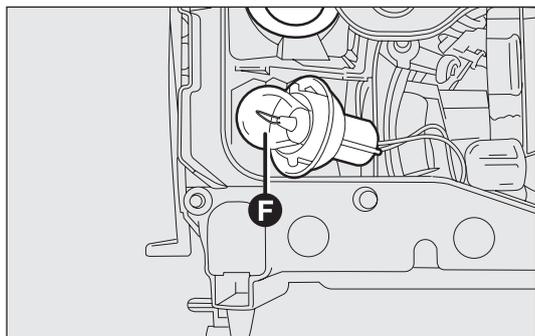

fig. 144
- remove the burnt bulb F-fig. 144 and fit the new one;